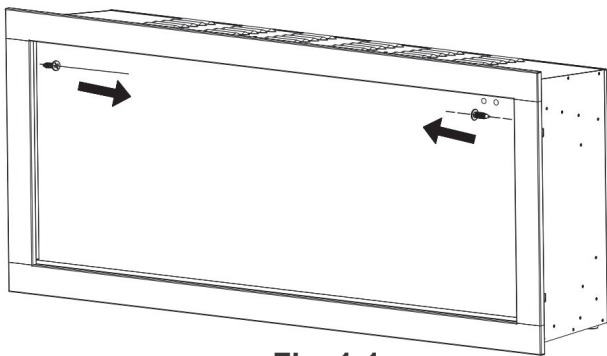

Fig. 1-1
- Take off the screws on both side.(Fig. 1-1 )